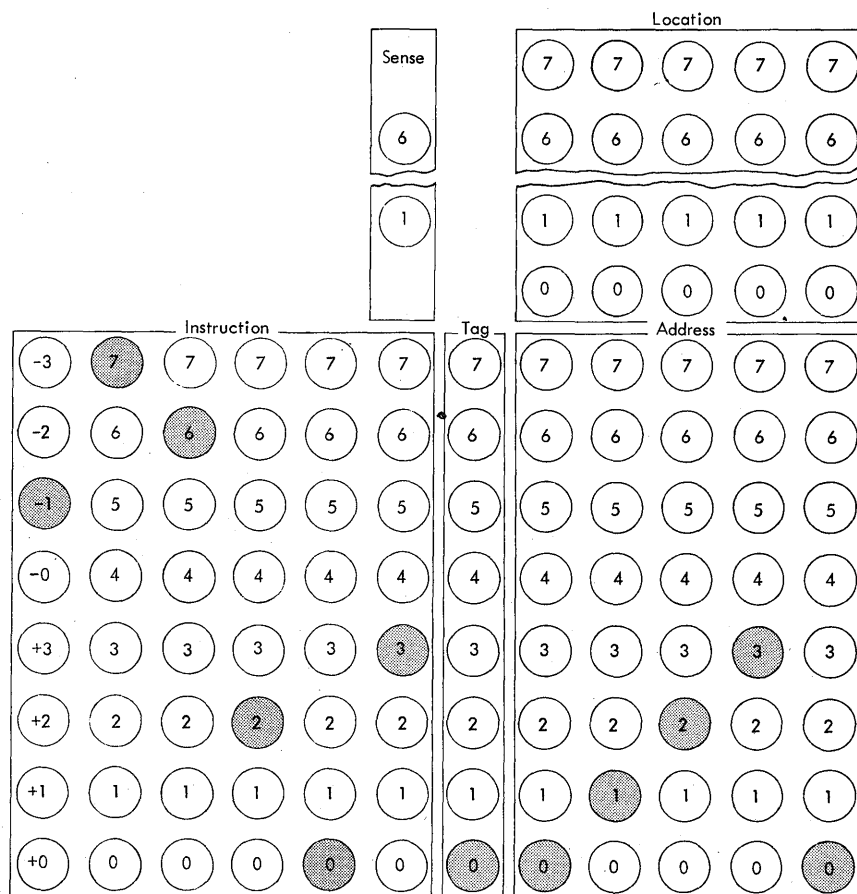

Figure 47. Read Select Card Reader Format
3. A *read select* instruction, addressing the proper data channel and card reader, is set up in the *entry keys* (Figure 47) and the console *load* key is depressed.